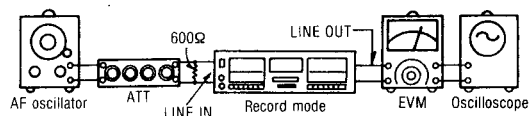

Fig. 16
1. Make connections as shown in fig. 16.